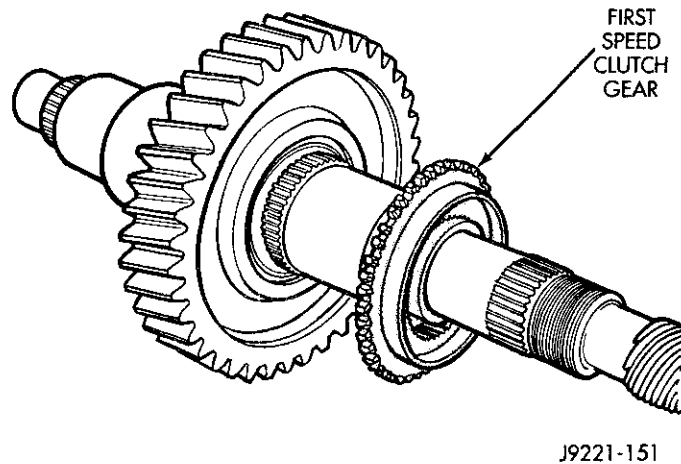

Fig. 72 Removing Reverse Clutch Gear
(31) Remove reverse clutch gear (Fig. 72).